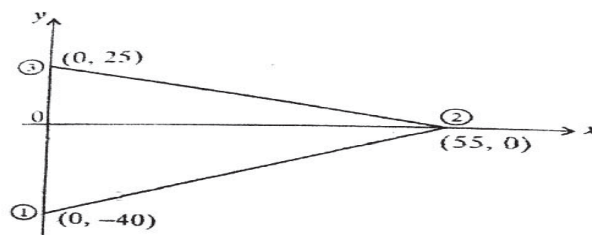

fig. 1a
- Q1) a)** Evaluate the stiffness matrix for the CST element shown in fig.1a. Coordinates are in mm. Assume Plain stress conditions. Take $E=200$ GPa, $\gamma = 0.3$, Thickness = 1cm Nodal displacements are given as: